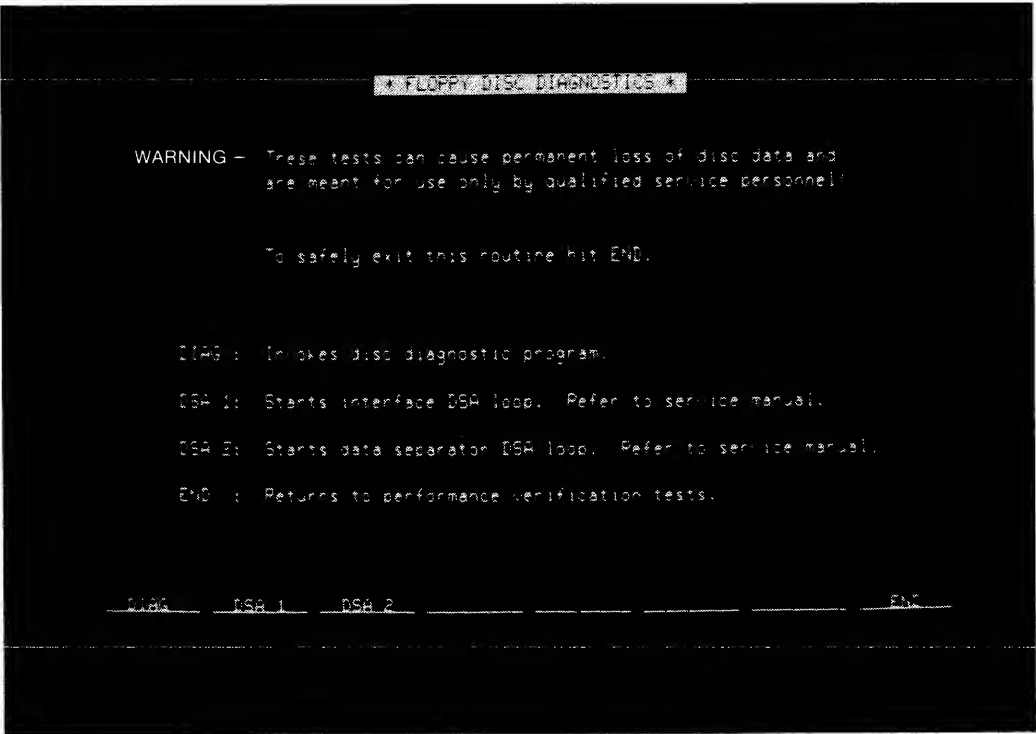

Figure 3-2. Floppy Disc Diagnostic Display
- b. Press the DIAG softkey to get FLOPPY DISC DIAGNOSTIC to appear on the screen. Refer to figure 3-2.